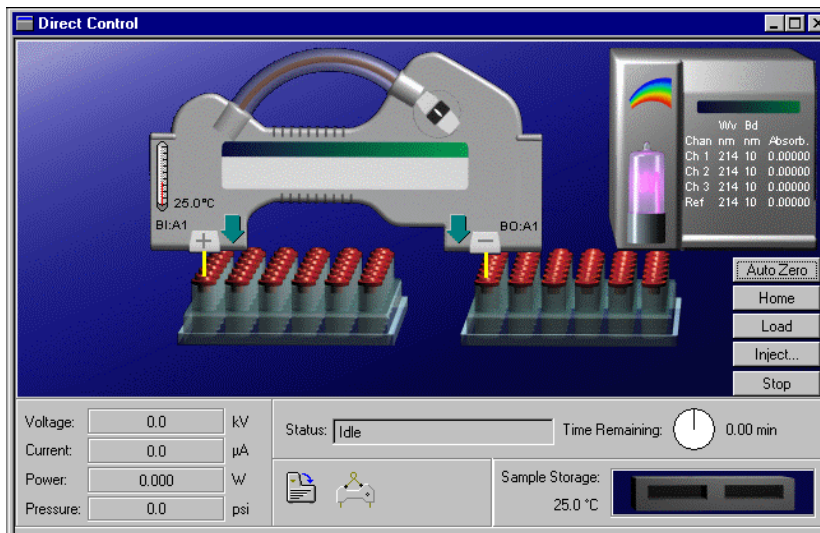

Figure 4.24 Direct Control Screen
2. From the **Control menu**, click on **Direct Control**. The Direct Control screen appears as shown in Figure 4.24.